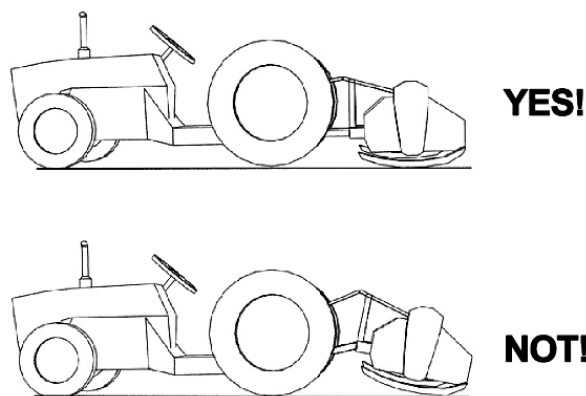

Figure 2
11. Lower the implement and adjust it so that it is parallel to the ground. Do this by adjusting the tractor top link (see Fig. 2). This will improve the life-span of the implement and the PTO shaft